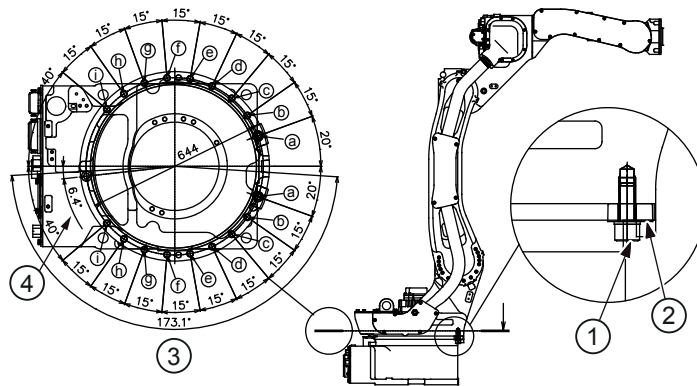

Fig. 6-4: Components of the S-axis limitation
- The stop can be mounted at 15-degree intervals. To avoid a mechanical interference from stop duplication (eg  $\pm 30^\circ$ ,  $\pm 150^\circ$ ), install the mechanical stop as shown in the following table Fig. 6-4: "Components of the S-axis limitation".